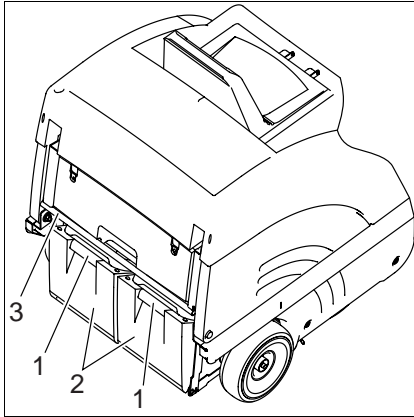

Fig. 9 Emptying dirt hopper
- Fold bow (Fig. 9/3) up and the dirt hoppers (Fig. 9/2) are lowered.
- Use the recessed grip (Fig. 9/1) of one of the hoppers to lift it lightly and extract it.
- Re-insert dirt hopper (Fig. 9/2) and fold down the bow (Fig. 9/3).